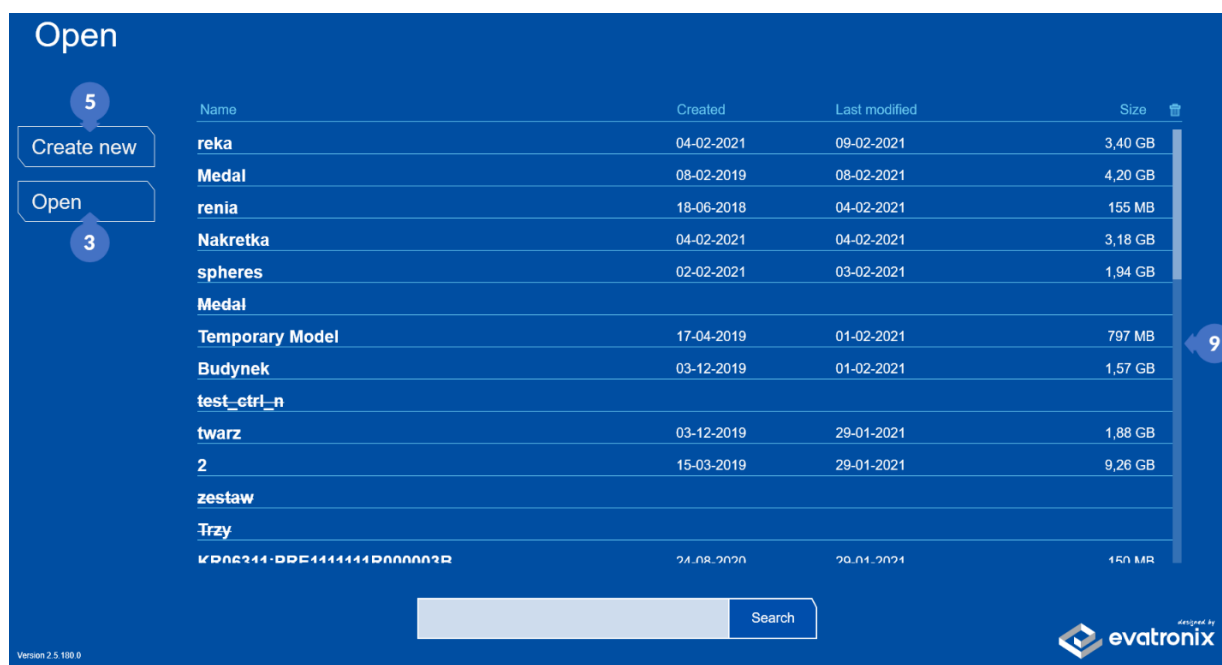

Figure 193. Opening an existing project – recent project list
The third way to open a project is to select it from the list of recently opened projects (9) (Figure 193) in the *Open* tab (3) (Figure 191), the view of this tab is exactly the same as the view of the start window described earlier.